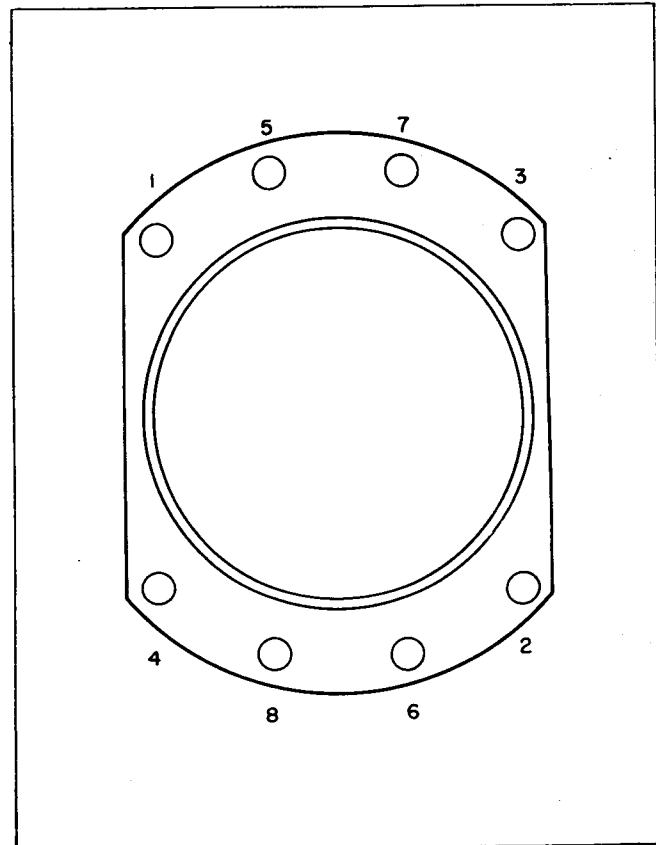

Figure 46. Cylinder Base Nut Torque Diagram
i. Tighten the flanged nuts in the sequence of index numbers of figure 46 to a torque between 490 and 510 in. lb. Beginning with index number 1 (figure 46), and in a clockwise sequence, tighten the nuts to a torque between 490 and 510 in. lb.